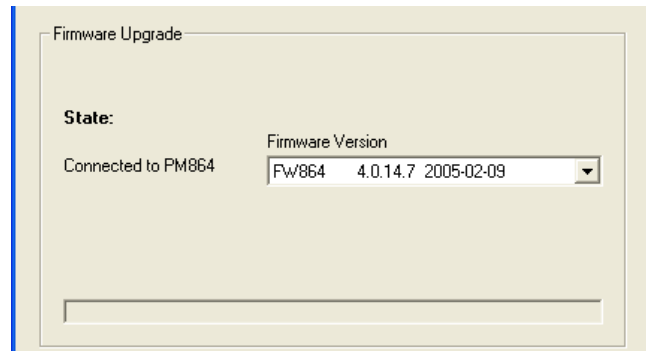

Figure 56. A Firmware version displayed in the text field
- Click **Connect** button and press the **Init** push-button on the PLC until the **Run** LED starts to blink. Wait for a minute until a message appears. If the connection is successful, a confirmation text appears in the Firmware Version text field (Figure 56).